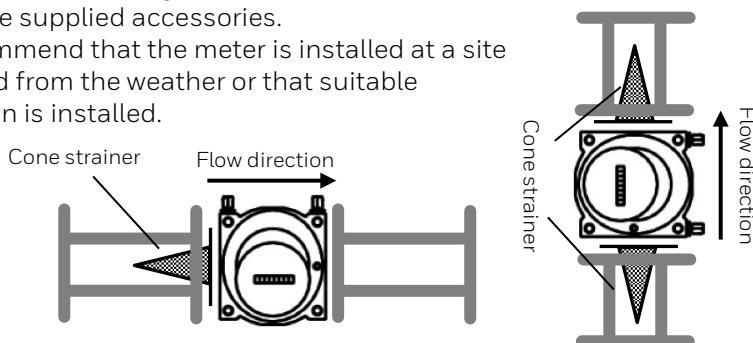

Fig. 11 | Cone strainer installation
- Unscrew the oil filler neck (Fig. 11 | No. 1) depending on the installation position of the meter.
- If an oil-level inspection plug (Fig. 11 | No. 2) is fitted, unscrew it.
- The oil quantity is correct when the oil is visible in the threads of the oil-level inspection borehole (Fig. 11 | No. 2) or in the centre of the inspection window.
- Drain the oil out of the meter (see Fig. 11 | No. 3 Oil drain sleeve).